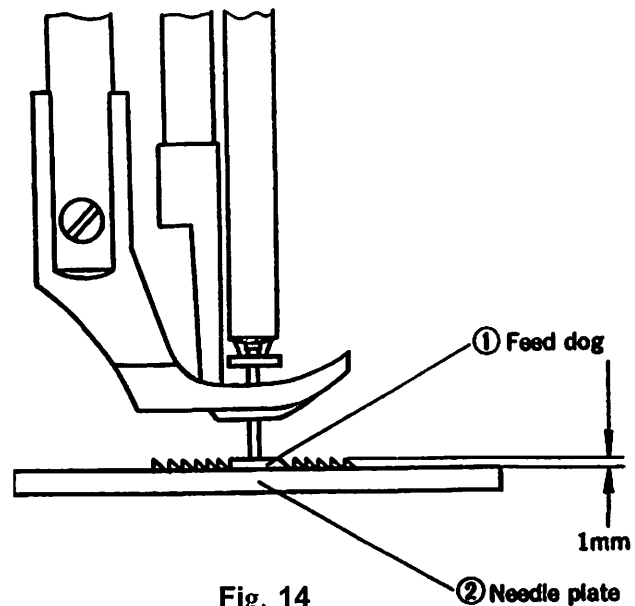

Fig. 14
The maximum height of the feed dog (①, Fig. 14) from the surface of the needle plate (②, Fig. 14) is normally 1mm.